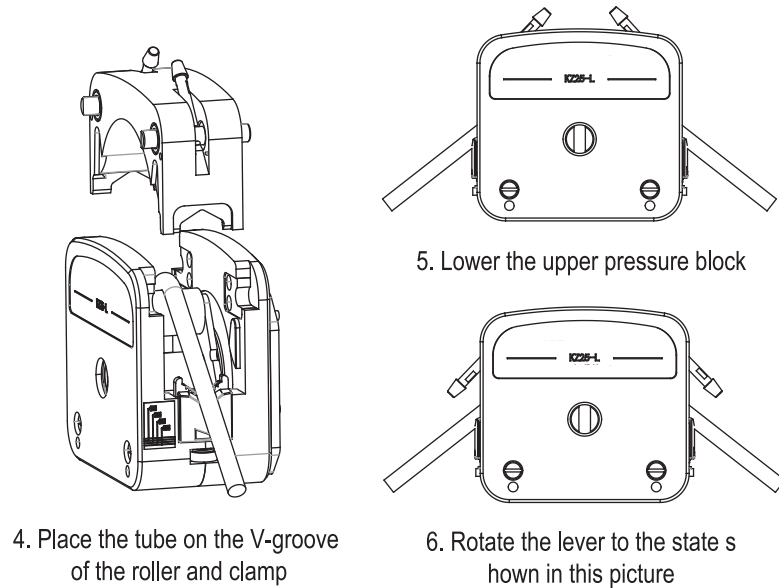

Figure 3 Installation of Tubes
- Install the tube as shown in Figure 3